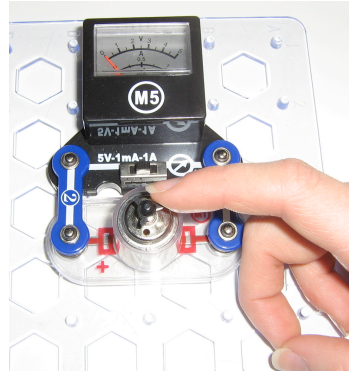

Figure 5
1. Build the circuit shown in **figure 5** in the *Instruction sheet*.